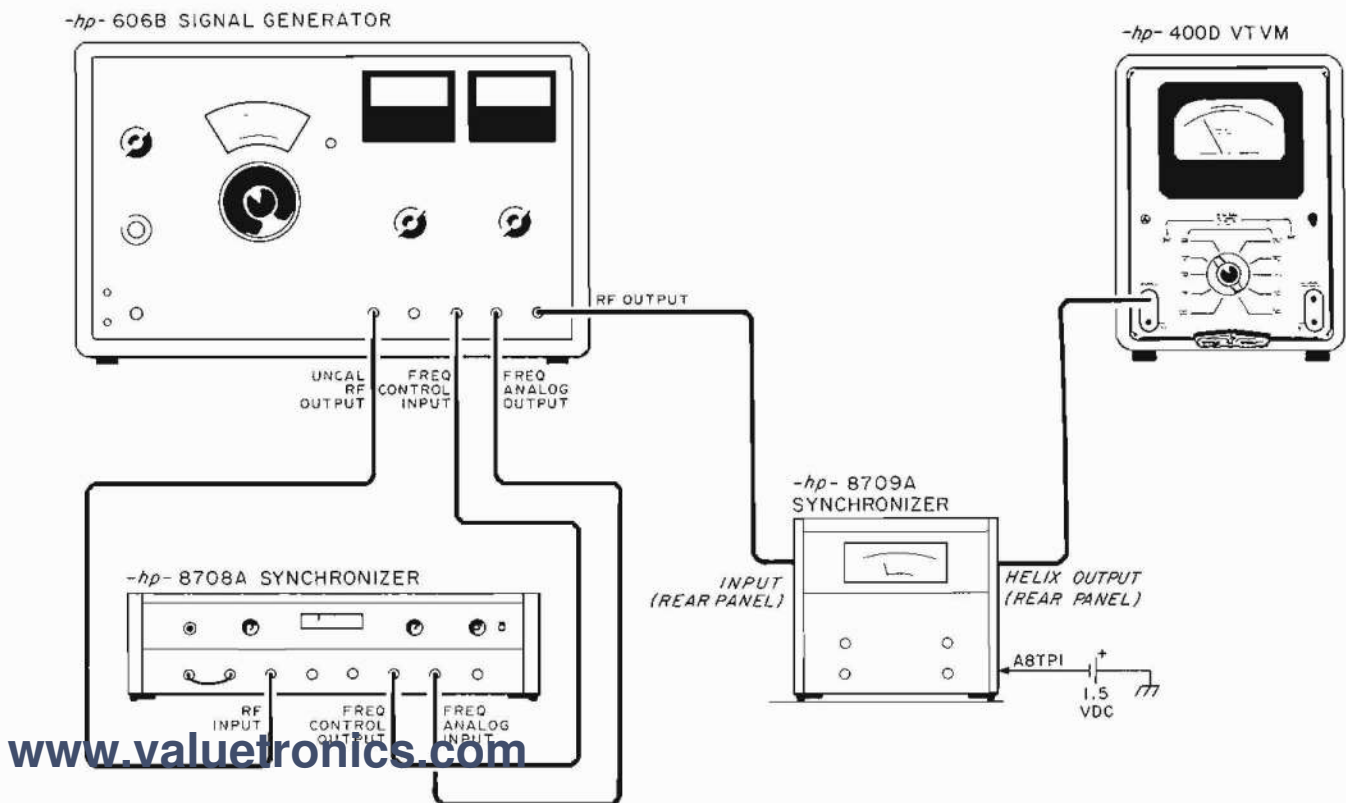

Figure 5-2. Input Sensitivity Test Setup
b. Connect the 8709A to the test equipment as shown in Figure 5-2.